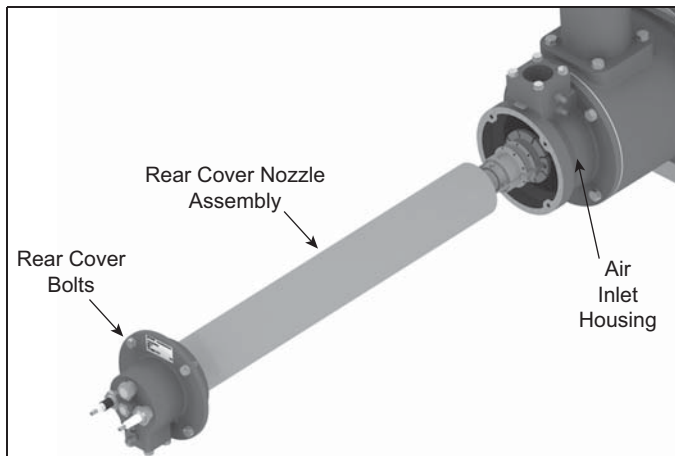

Figure 3.18.
4. Slide the rear cover nozzle assembly through the air inlet housing and into the combustor assembly. See Figure 3.18.